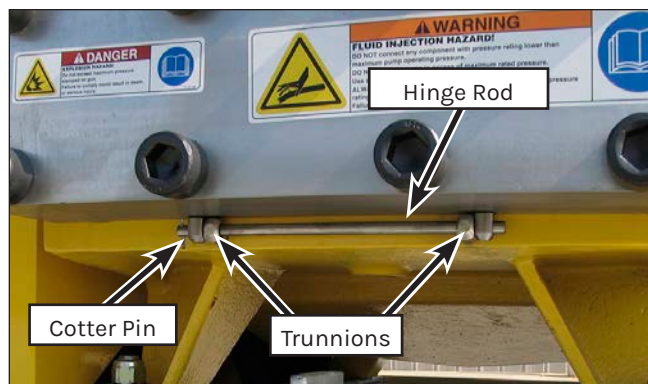

Figure 60: Hinge Rod, Trunnions, and Cotter Pin.
6. Remove the cotter pin (Figure 60) from the hinge rod and remove the rod.